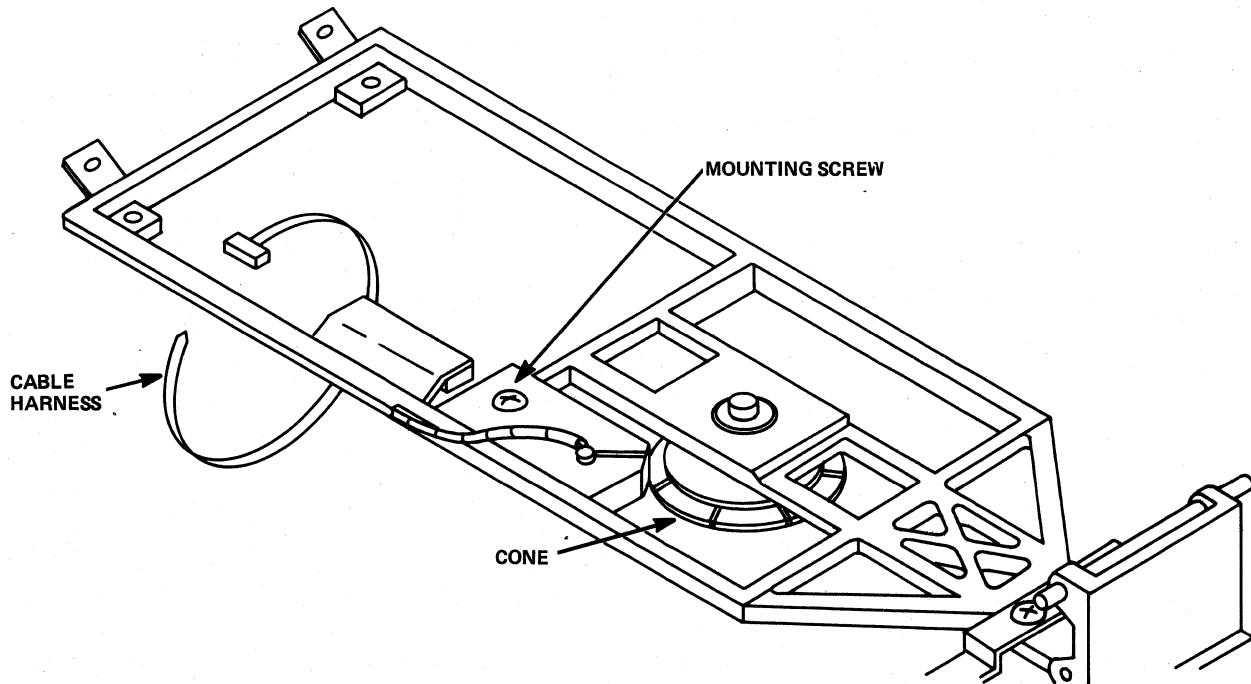

Figure 5-4
- 5.4.4** With a Phillips screwdriver, remove the mounting screw that attaches the index emitter holder to the Cone Lever Assembly (see Figure 5-4).